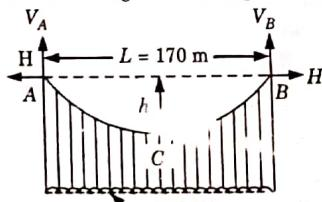

Fig. 10. Given cable.
1. The cable is shown in Fig. 10. The length of the cable 'l' is given by,